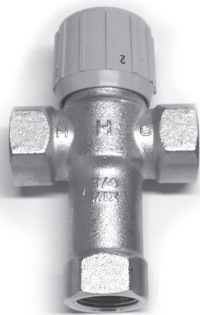

Figure 9 - Thermostatic Mixing Valves installed at each point of use can help prevent scalds.
- Point-of use Thermostatic Mixing Valves (Figure 9 on page 8)
Install Thermostatic Mixing Valves (Figure 9) to regulate the temperature of the water supplied to each point of use (for example, kitchen sink, bathroom sink, bath and shower). Consult the valve manufacturer's instructions or a qualified person.